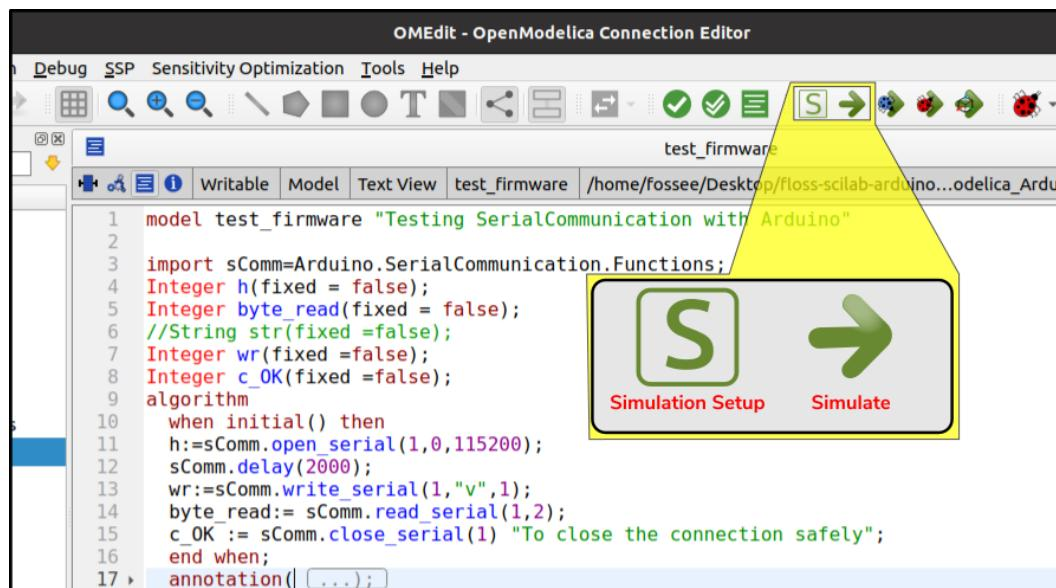
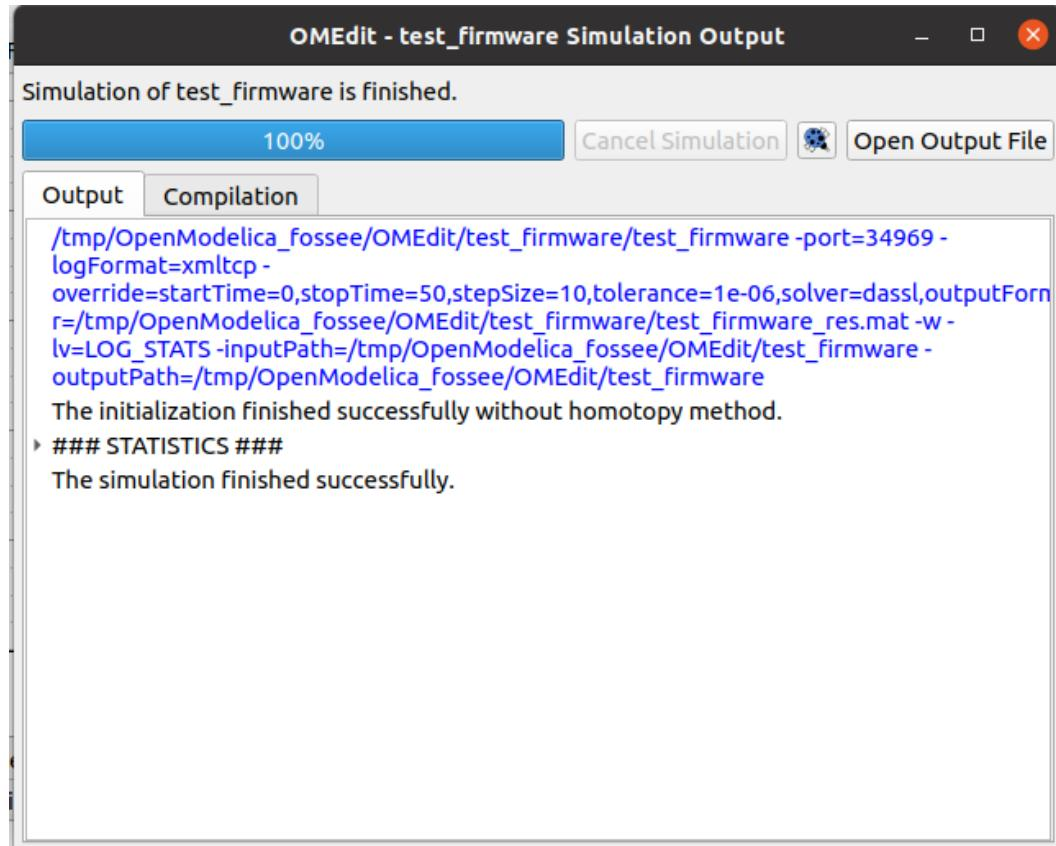

Figure 3.13: Simulating a model in OMEdit
Figure 3.14: Output window of OMEdit
Now, we will see how to simulate this model. For this, we need to ensure that OMEdit is in Modeling Perspective. Next, we will click on the green right-sided arrow, named as Simulate, as shown in Fig. 3.13. When we click on Simulate, OMEdit will first compile the model and then, it will simulate the model for the time specified in the model itself. As OMEdit provides an elegant user interface for simulating the models, it will open an output window the moment you click on Simulate. Fig. 3.14 shows the output window after the simulation of our model is finished. Also, we can observe that the OMEdit is now in Plotting Perspective.
As shown in Fig. 3.14, OMEdit displays the message that "The Simulation fin-
**OpenModelica Code 3.1** An OpenModelica code/model to check whether the firmware is properly installed or not. Available at Origin/tools/openmodelica/windows/test\\_firmware.mo, see Footnote 2 on page 2. Locate this file inside OpenModelica-Arduino toolbox, as explained in Sec. 3.2.4. Simulate this code/model by following the steps given in Sec. 3.2.3. If the simulation is successful, you should expect an output window in OMEdit as shown in Fig. 3.14.